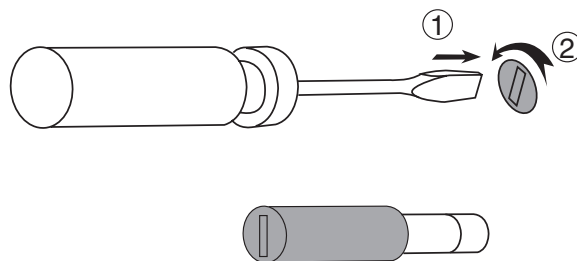

Fig.1-4 Removing the fuse holder
2. On the rear panel, remove the fuse holder, as shown in Fig. 1-4, by pushing it inward and unscrewing it counterclockwise using a screwdriver.